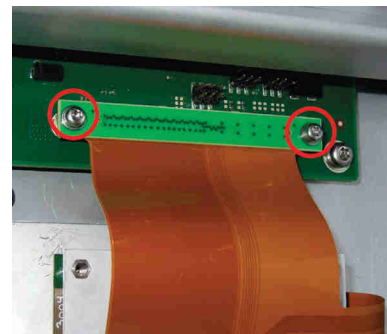

Fig. 10.17 Connector
- 5 Remove the two screws holding the connector for the interconnection board to the motherboard - use Torx T10 (tools 1/7). Shown in Fig. 10.17 \(p. 139\).